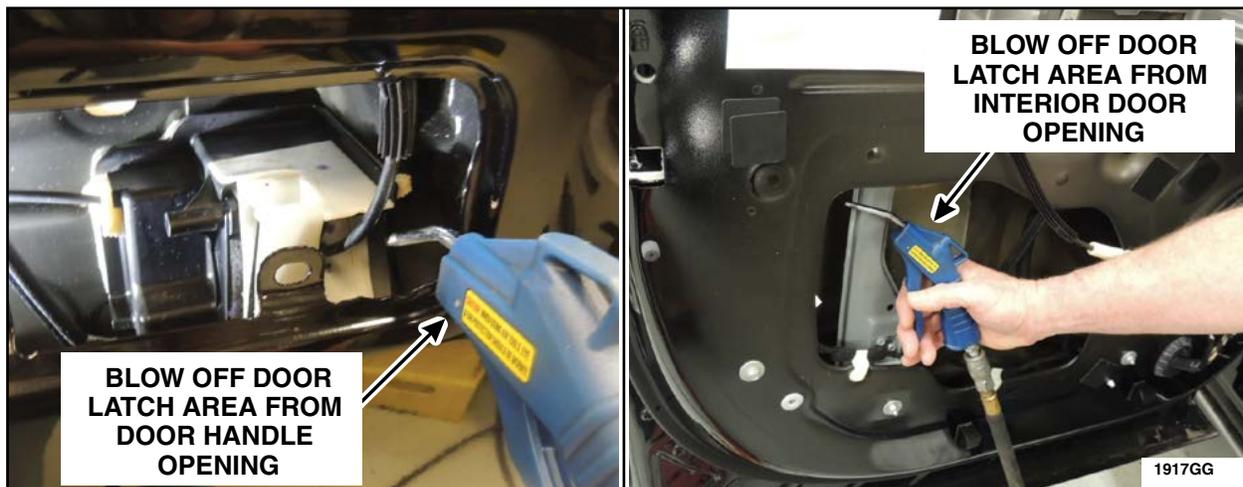

FIGURE 37
8. Using compressed air, blow out any debris or residual water from the door latch assembly, exterior door handle mechanism and cables for 30 seconds. Drying these components with compressed air for 30 seconds is critical to remove as much moisture as possible. See Figure 37.